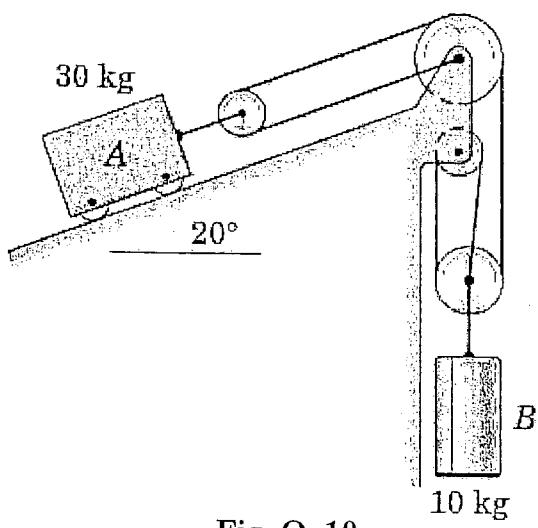

Fig. Q. 10
10. Cylinder B is connected with the block A as shown in Fig. Q. 10. Neglecting all friction and mass of the pulleys, determine the accelerations of bodies A and B when release from rest. [8]